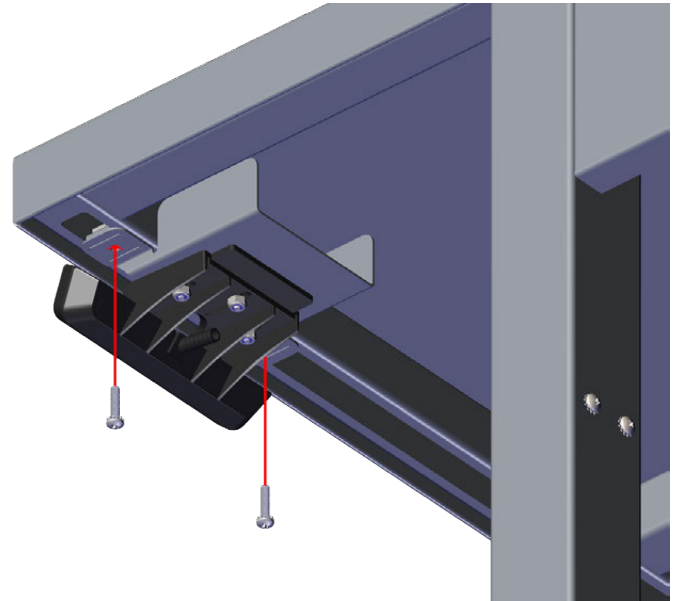

Fig. 15: Reinstall memory control pad assembly
2. Insert two bolts into the holes of the mounting bracket assembly and reattach to table (Fig. 15).